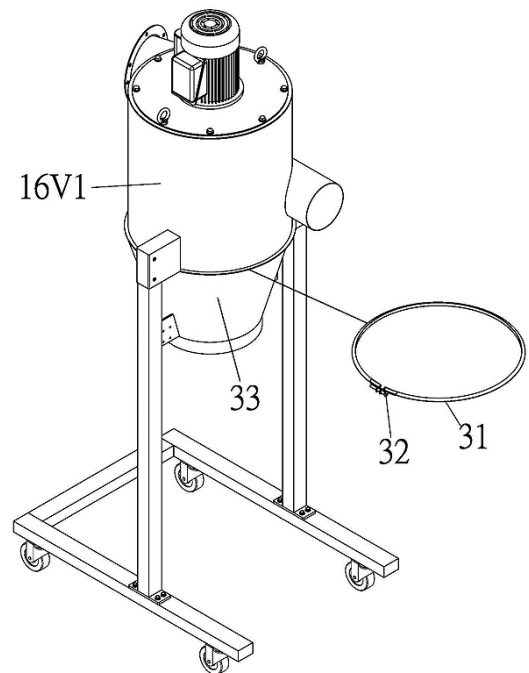

Fig. 4
- Place the main housing (NO.16V1) and cone (NO.33), and then secure with cone clamp (NO.31) and hex head bolt 1/4" x 2-1/2" (NO.32). See (FIG.4).